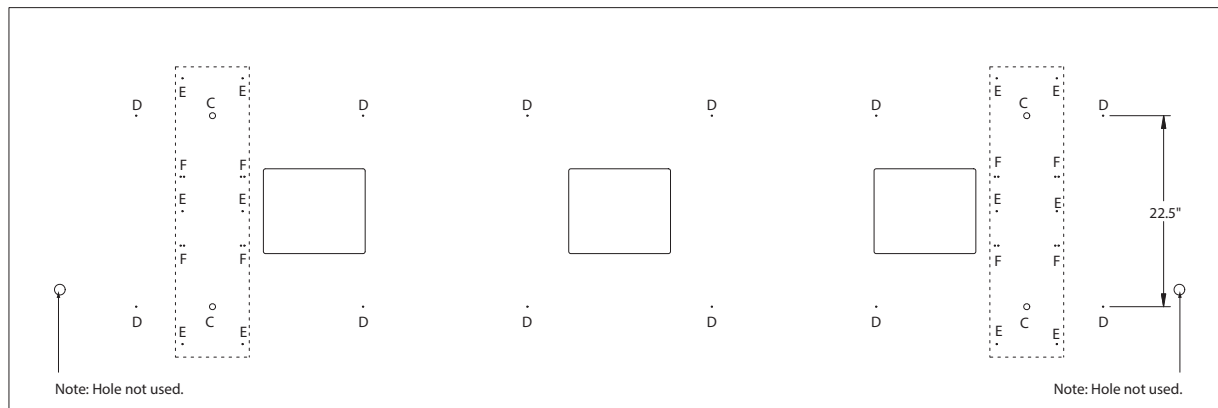

Fig. 1
**Check top alignment.** Counter bored holes on underside of top fit on to the Pan Head screws (C) used to secure the beams to the bracket castings. See Fig. 1.